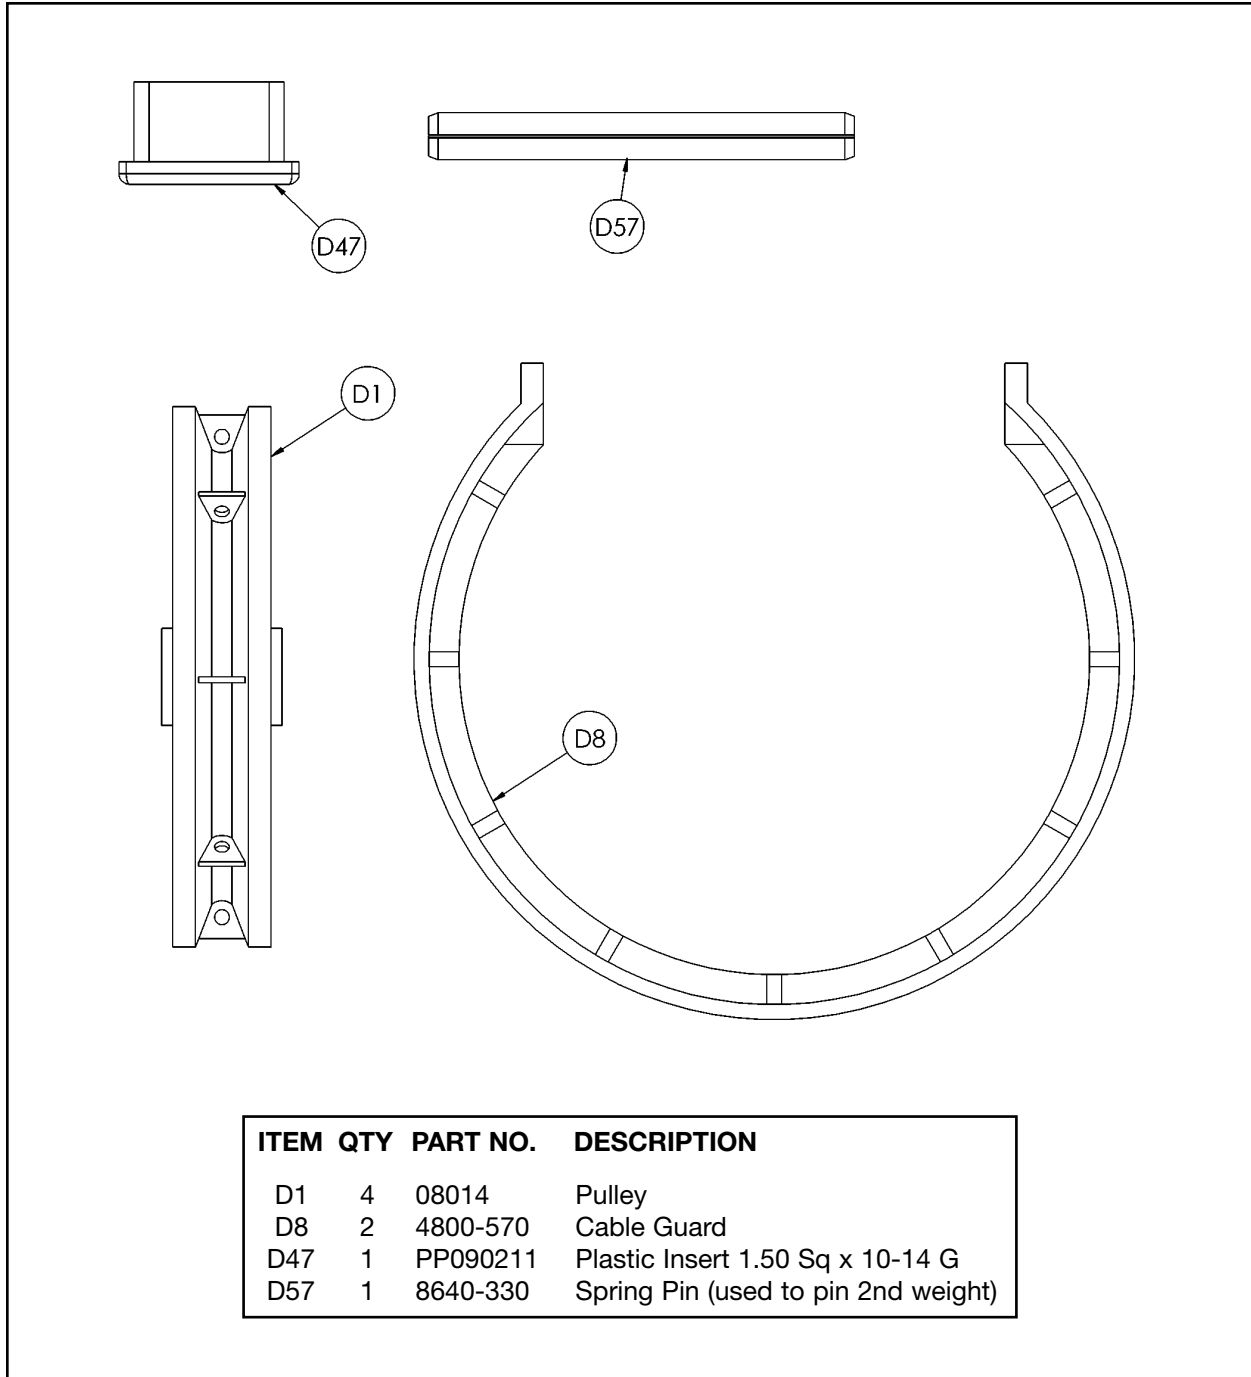

Figure 4
- B. Attach leg (#D27) to column using two SHCS .375-16 x 1.25 (#D41) and two nylon locknuts (#D39) as shown in Figure 4. **NOTE:** Do not securely tighten hardware at this time.
- D. Attach seat frame (#D21B) to leg (#D27) using two SHCS .375-16 x 2.75 (#D43) and two nylon locknuts (#D39) as shown in Figure 4. **NOTE:** Do not securely tighten hardware at this time.